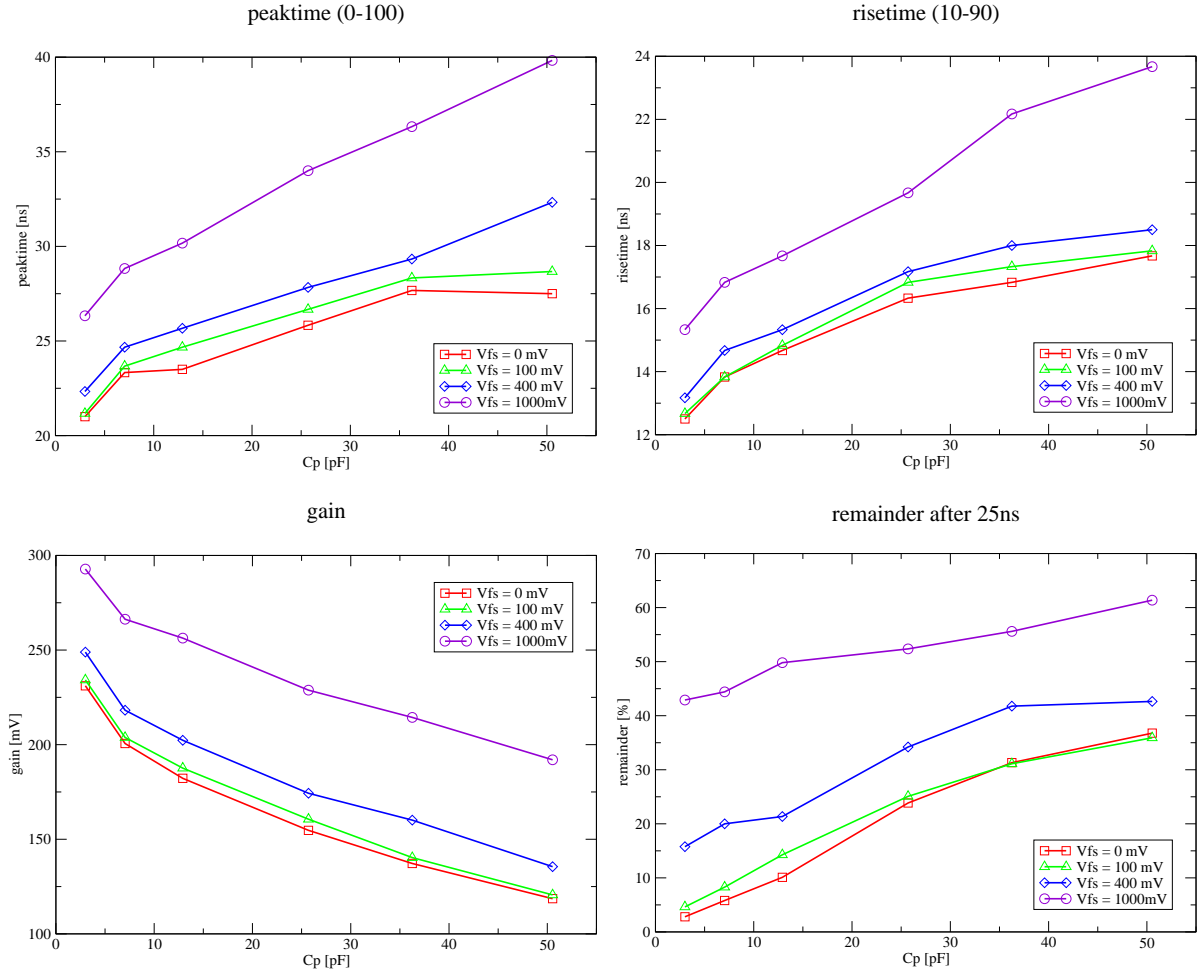

Figure 6: Front-end pulse parameters for different shaper settings  $V_{fs}$  and different detector load capacitances
**Vfs** controls the shaper feedback resistance. Increasing  $Vfs$  values enlarge the peaking time, the peaking voltage as well as the remainder (cf. Fig. 6).
The behaviour of the front-end pulse parameters is strongly coupled to the detector load capacitances. Fig. 6 shows the variation of